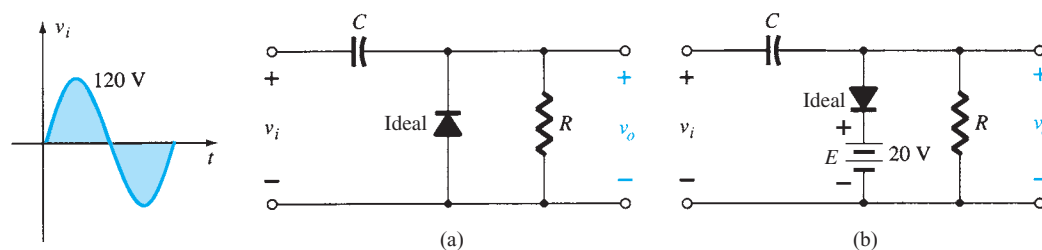

FIG. 2.182
38. Sketch v_o for each network of Fig. 2.182 for the input shown.